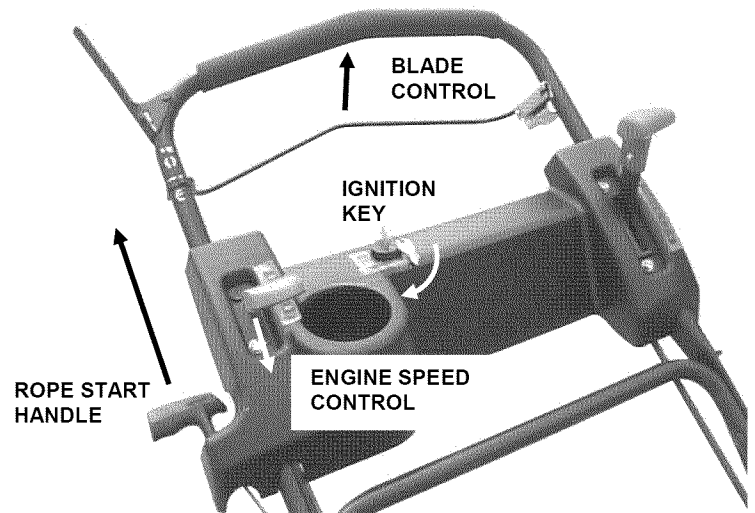

FIGURE 2.4
1. Move engine speed control to "Fast" (Rabbit) position. See Figure 2.4 and "FAMILIARIZATION".
2. Move engine speed control past “Fast” detent to “Choke” position. See Figure 2.4 and “FAMILIARIZATION”.